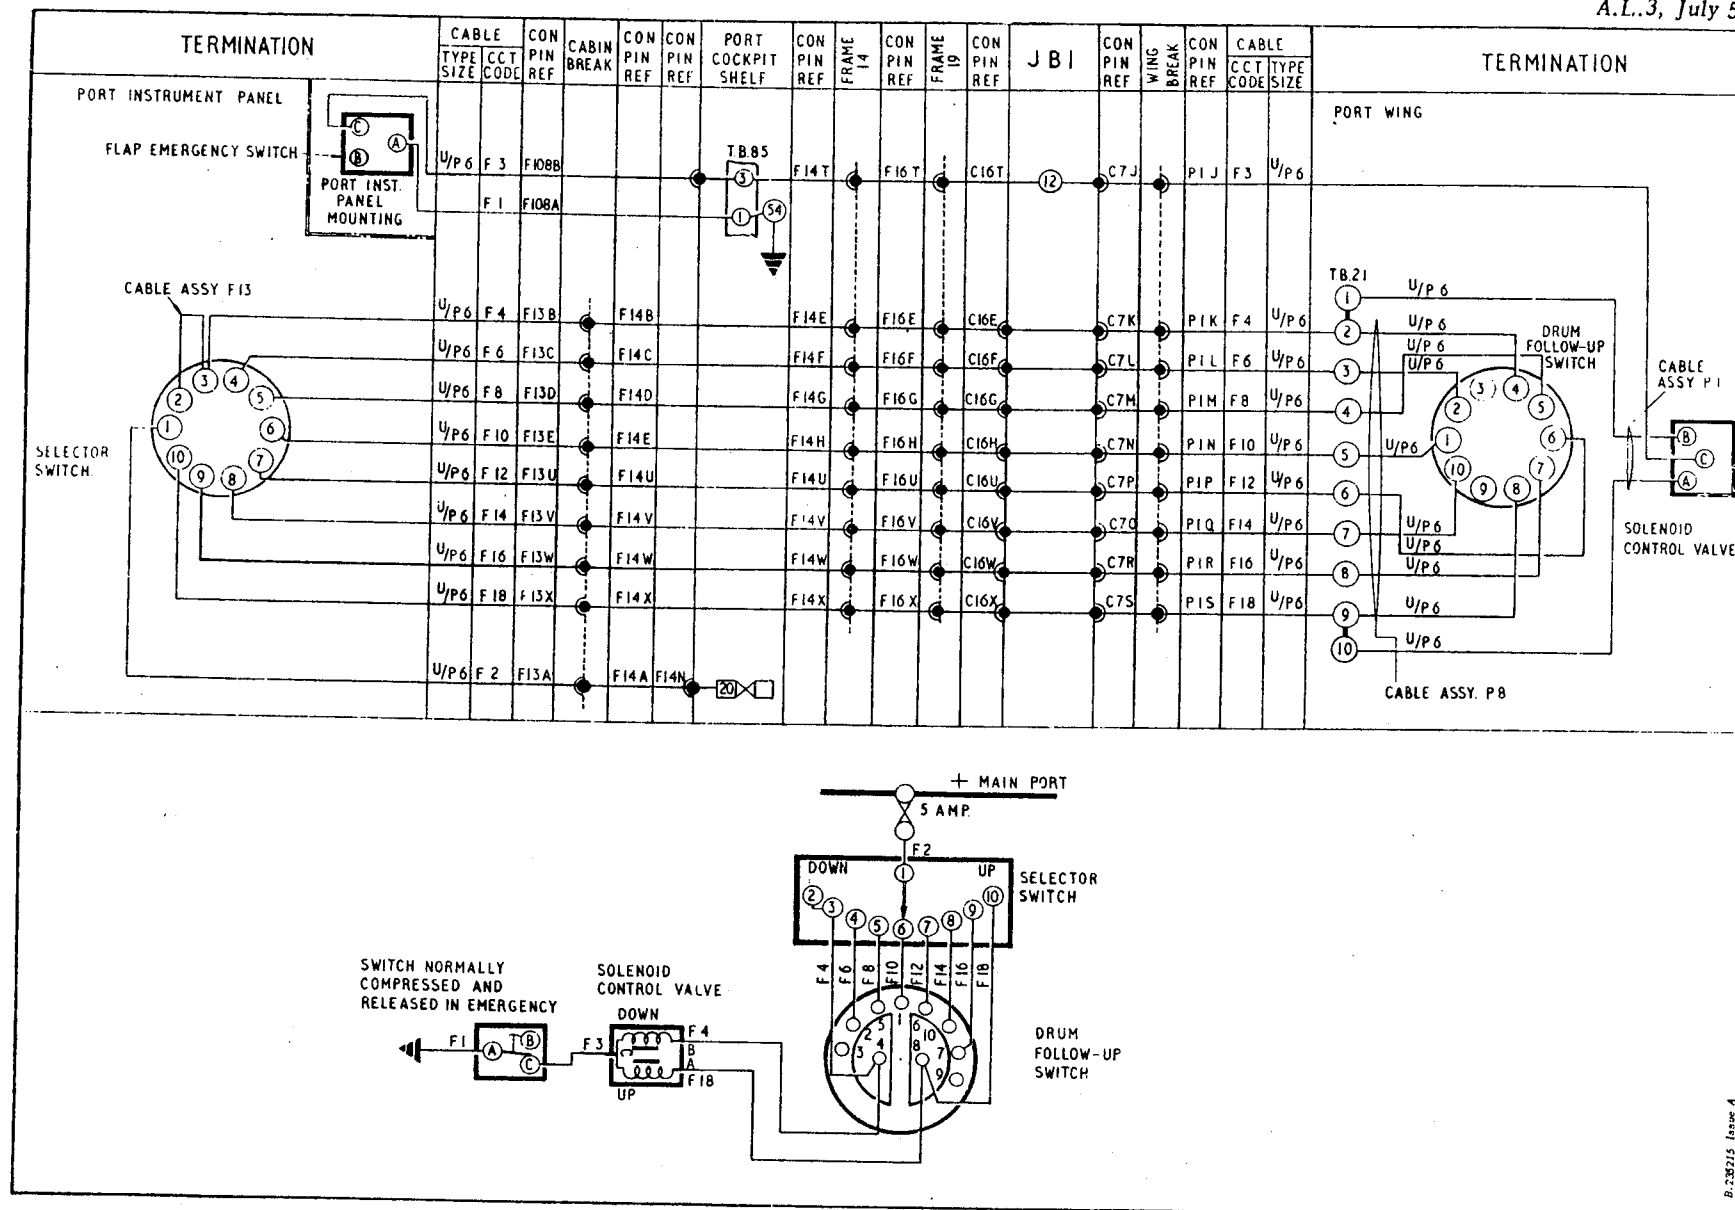

Fig.1. Flap control (routing and theoretical)
6. The circuit diagram (fig.1), is drawn in the intermediate position, corresponding